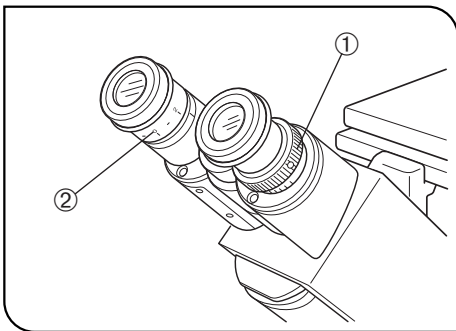

Fig. 21
2 Adjusting the Diopter (Figs. 21 & 22)
1. While looking through the right eyepiece, rotate the diopter adjustment ring ① on the right eyepiece sleeve until the peripheral area of the field of view is clearly visible. (Fig. 21)
3. Look through the left eyepiece and rotate only the diopter adjustment ring ② on the left eyepiece to bring the specimen into focus. (Fig. 21)
1. Looking through the left eyepiece with your left eye, rotate the top of the eyepiece ② until a clearly defined double crosslines can be seen in the field of view. (Figs. 21 & 22)
3. Looking through the right eyepiece with your right eye, rotate only the diopter adjustment ring ① to bring the specimen into focus.